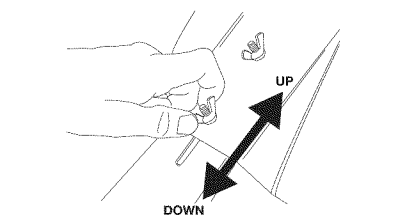

Fig. 4
- Loosen (do not remove) the two wing nuts on the tine guard (Fig. 4).